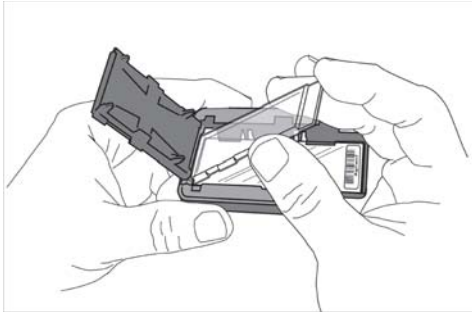

Figure 5 Inserting the ozone-barrier slide cover
- In environments in which the ozone level exceeds 5 ppb, immediately put the slides with active microarray surface (“Agilent”-labeled barcode) facing up in a slide holder. Make sure that the slide is not caught up on any corner. Put an ozone-barrier slide cover on top of the array as shown in Figure 5. Refer to the *Agilent Ozone-Barrier Slide Cover User Guide* (p/n G2505-90550), included with the slide cover, for more information.